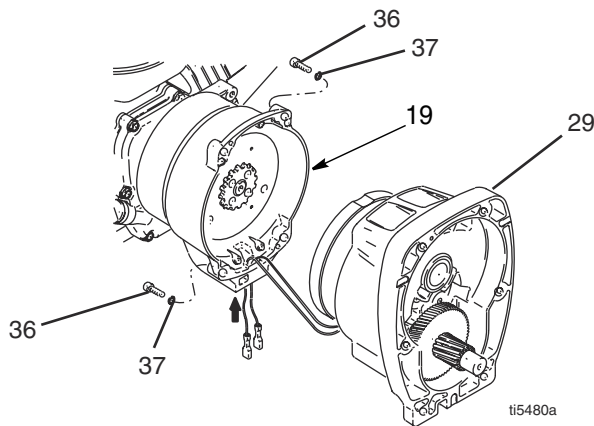
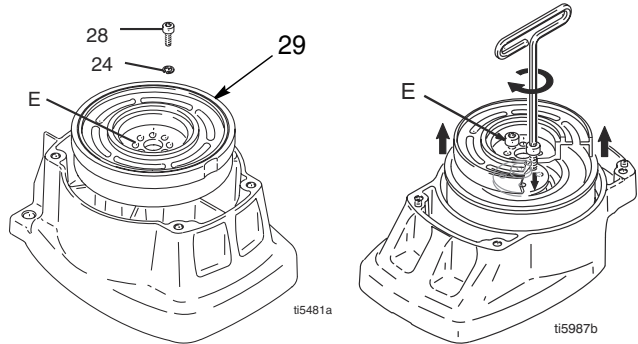

FIG. 4
FIG. 5
2. FIG. 4. Disconnect clutch cable connectors from inside of pressure control.
3. FIG. 4. Remove four screws (36) and pinion assembly (29).
4. FIG. 5. Place pinion assembly (29) on bench with rotor side up.
5. Remove four screws (28) and lock washers (24). Install two screws in threaded holes (E) in rotor. Alternately tighten screws until rotor comes off.
9. FIG. 5. Place pinion assembly on bench with rotor side up.
10. Apply Loctite® to screws. Install four screws (28) and lock washers (24). Alternately torque screws to 125 in-lb until rotor is secure. Use threaded holes to hold rotor.
11. FIG. 4. Install pinion assembly (29) with four screws (36) and washers (37).